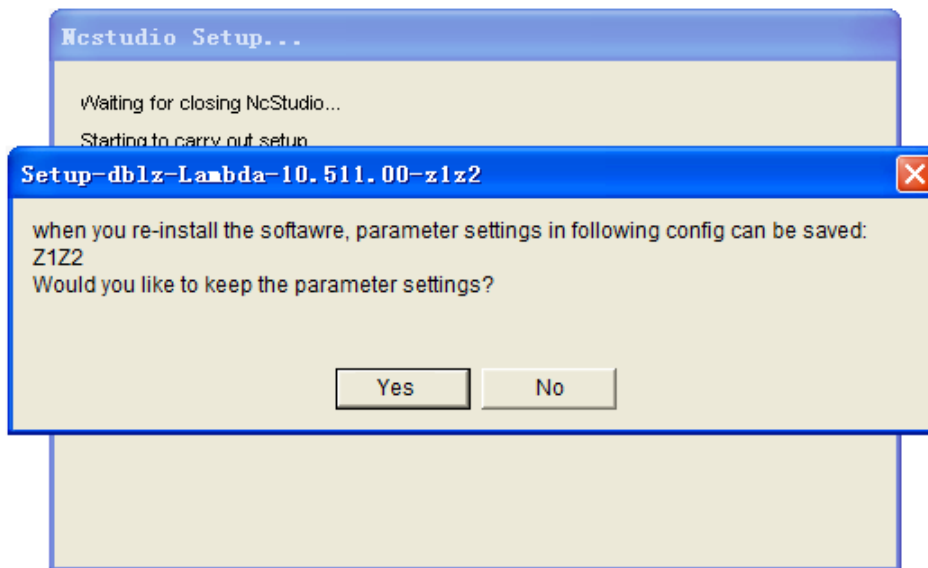

Fig. 3-11 Prompt for parameter saving
- 3) Click “OK”. If software of old version has been installed in the host, a dialog box prompting parameter saving will appear, as shown in Fig. 3-11. The step can save trouble of re-set parameters again in the new software by keeping parameter settings of the old version software. You can select